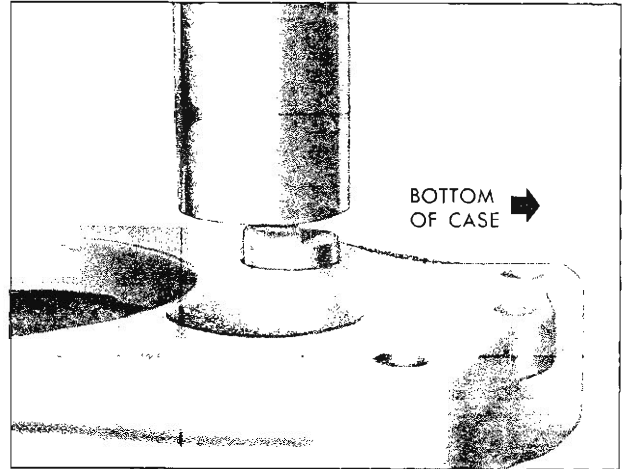

Fig. 21M—Installing Countershaft
5. Align countergear with shaft in rear and hole in front of case, and press countershaft into case (pushing assembly tool out front of case) until flat on shaft is flush with rear of case. Be sure thrust washers remain in place (fig. 21M).